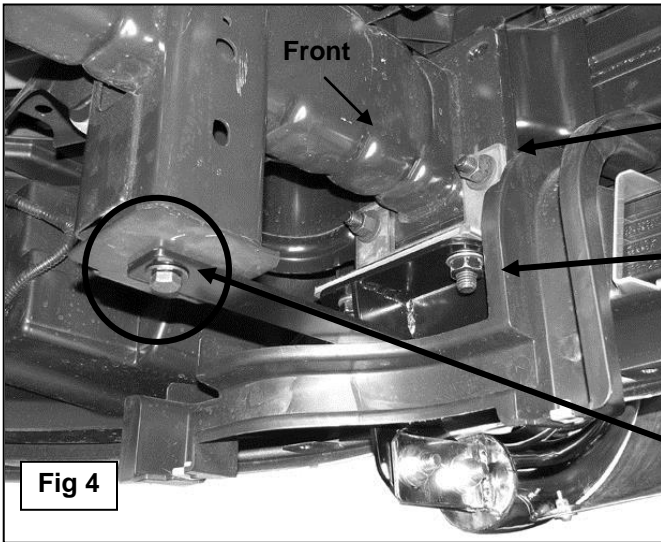

Fig 4
- b. Select (1) Upper Frame Bracket, (will fit left or right-without tow hooks only), and the driver side Mounting Bracket, (**Figure 3**). Bolt the two Brackets together with (2) 12mm Flat Washers, (2) 12mm Lock Washers and (2) 12mm Hex Nuts, (**Figure 4**). Do not tighten at this time.
- c. Insert the assembled Mounting Bracket up from behind the bumper and align the holes in the Mounting Bracket with the bumper bolts. Attach the Bracket to the bumper bolts using the factory hex nuts and snug but do not tighten the hardware, (**Figure 4**).
- e. Attach the flat end of the driver side Bracket to the frame with (1) 12-1.5mm x 30mm **Special Fine Thread** Hex Bolt, (1) 12mm Flat Washer and (1) 12mm Lock Washer, **(Figure 4)**. **IMPORTANT:** The hole in the bottom of the frame is **fine thread**. Only use the 12-1.5mm x 30mm Hex Bolt provided in the hardware kit. Snug but do not tighten all hardware at this time.